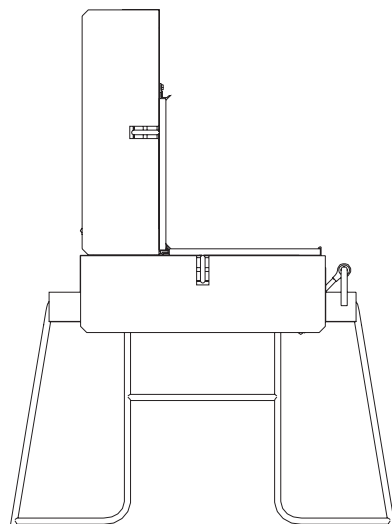

Fig. 8
2. Position crane lifting unit on the frame and secure with the bolt, SW 30. Fig.8 + 8a